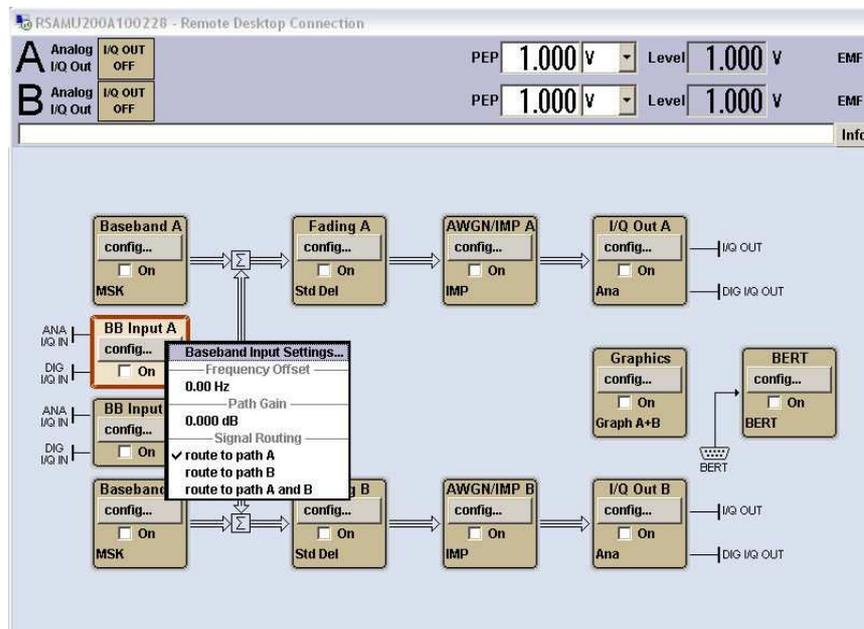

Figure 45: R&S AMU baseband input
- ▶ Click *config*, see Figure 45.